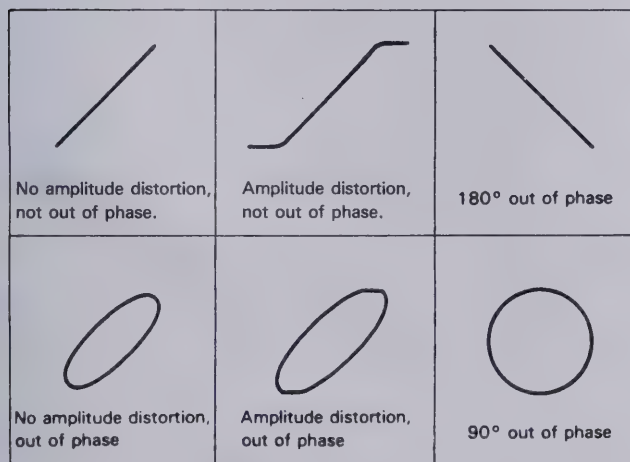

Fig. 19. Typical X-Y Phase Measurement Displays.
Phase Measurements (refer to Fig. 19)
5. If necessary, repeat step 3, readjusting the channel 1 and 2 gain controls for a suitable viewing size. Some typical results are shown in Fig. 19.